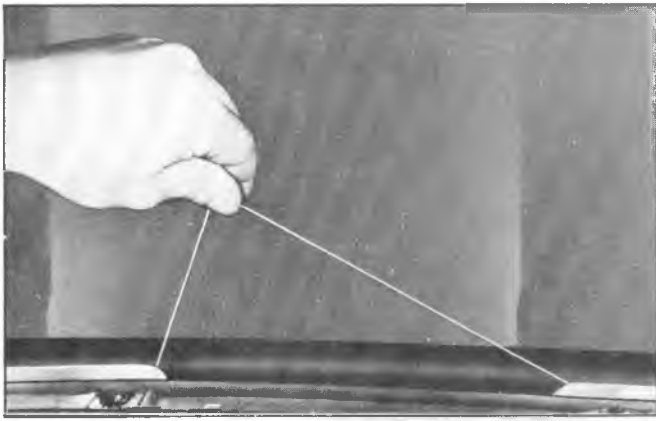

Fig. 10—Pulling String to Seal Rubber Tip
- a. Pull on loose ends (fig. 10) until each is within 2" of its respective upper corner.